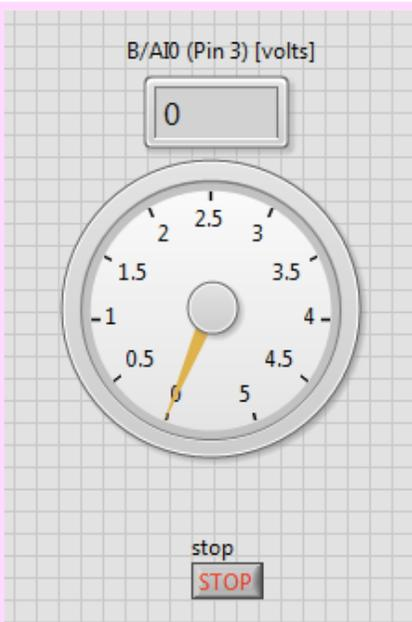

Figure 1: Potentiometer Demo Front Panel
**Step 2:** Download the LabVIEW files from the Resource tab. Open the Potentiometer demo folder and open the VI titled "myDAQ potentiometer.vi". On the front panel should be two numeric indicators. One will display a distinct numerical value, and the other should be a rotating dial indicator. Both indicate the voltage being read at AI0 (Figure 1).